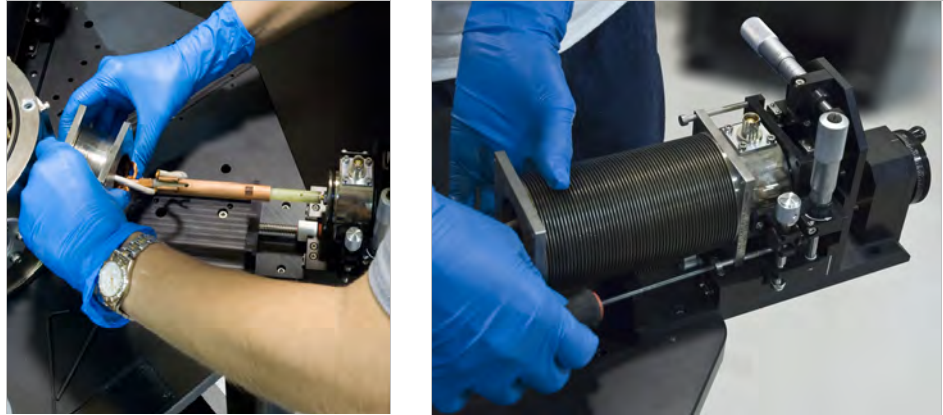

FIGURE 5-12 Left: Placing the bellows onto the probe arm base;
6. Place the bellows over the arm; grasp the square end and carefully twist it down until the flange meets the probe arm base (FIGURE 5-12).
7. Install the four long M4 horizontal screws that attach the bellows to the z-axis stage assembly, and tighten the screws evenly (FIGURE 5-12).